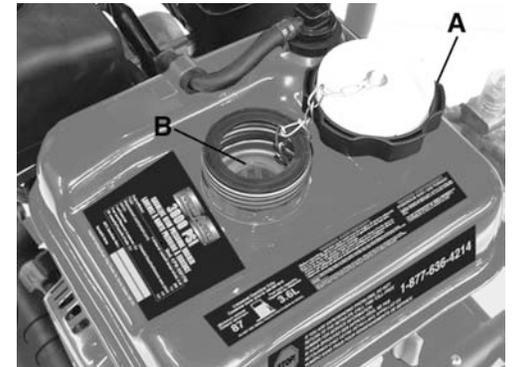

Figure 6
- 1) If it is necessary to add fuel, first make sure the engine is OFF, then remove the fuel cap (A) Fig.6 by turning it counterclockwise.
- 2) When refueling, make sure the fuel filter (B) Fig.6 is in place and keep in mind all safety precautions and make sure to add enough fuel based on usage. Use clean unleaded gasoline with a minimum of 87 octane. Do not mix oil with gasoline. Fuel tank capacity: 3.6 Litres.